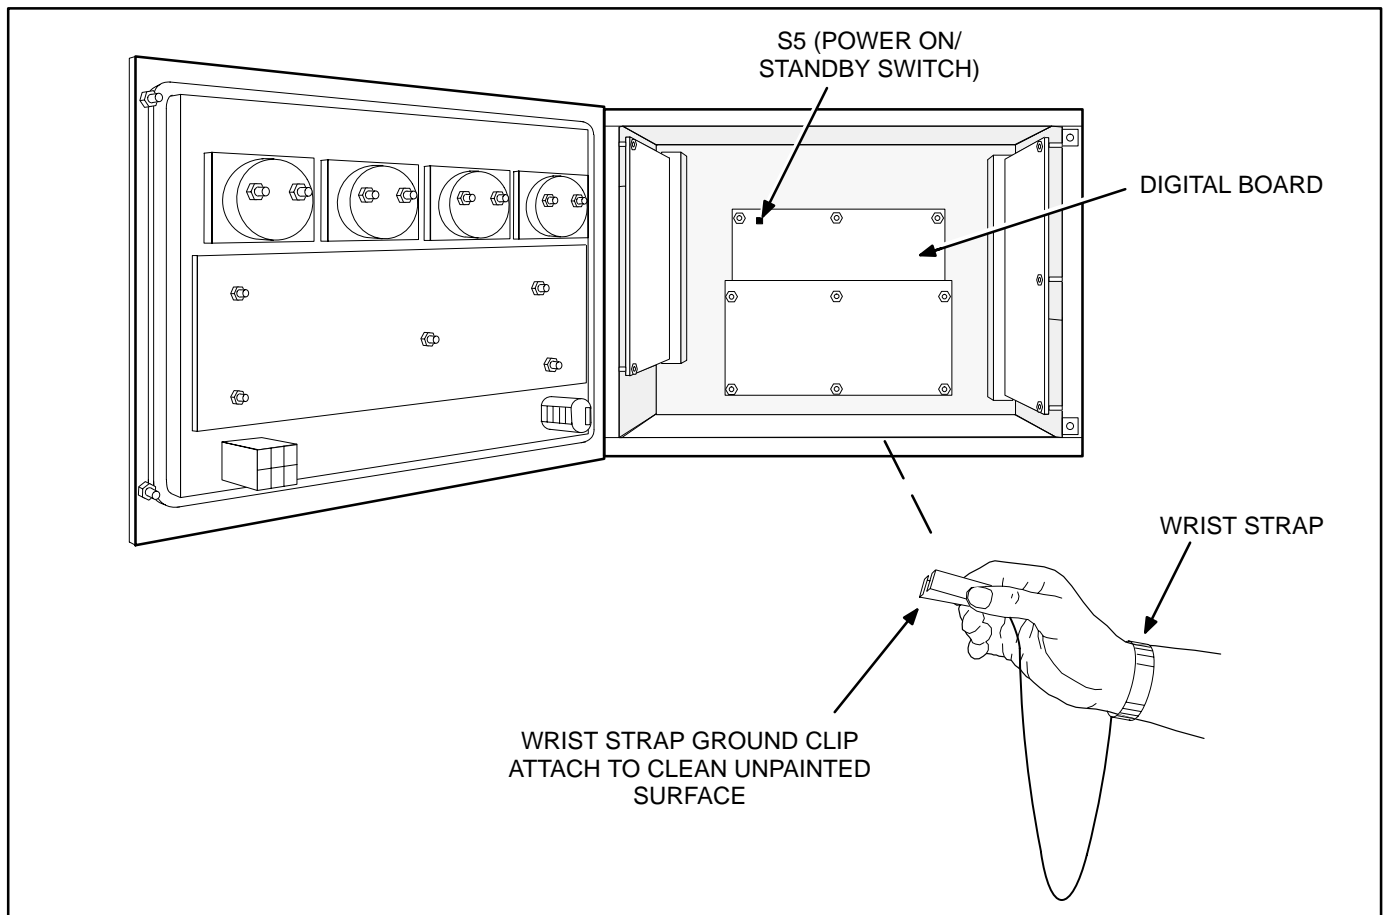

FIGURE 3. WRIST STRAP CONNECTION
The GCM is mounted inside the PCC housing. The GCM is powered from the genset battery. It remains powered even when the PCC is “asleep,” but it is recommended that the PCC S5 switch (see Figure 3) is set to “AWAKE” at all times when a GCM is used.
Attach the clip to a clean unpainted surface of the control box (see Figure 3) and place the strap around your wrist before handling a circuit board.
4. Open the control box door. Connect the wrist strap ground clip as shown in Figure 3.